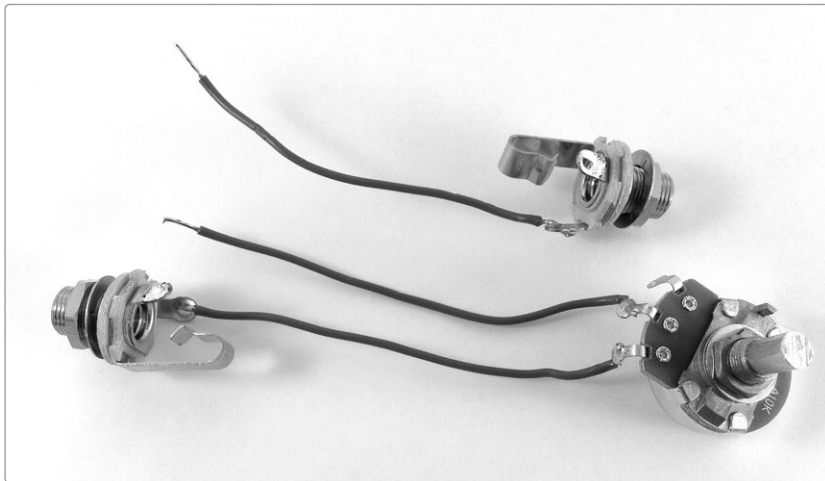

FIGURE 12-6: *The prepared jacks (output jack at the top, input jack at the bottom)*
Step 7 Cut a pair of 4-inch wires, strip the ends, and tin them. Solder one wire to the tip lug of each jack, as illustrated at the top of Figure 12-6. (If you're not sure which lug is which, see “Quarter-Inch Phone Plugs and Jacks” on page 337 for an illustrated introduction to 1/4-inch jacks.) That's all for the output jack, so put one jack aside.
Step 8 Grab the volume control pot (that's the one marked with a *V*) and the remaining jack. Solder the lead you added to the jack in Step 7 to the first lug on the volume control pot, as shown at the bottom of Figure 12-6.